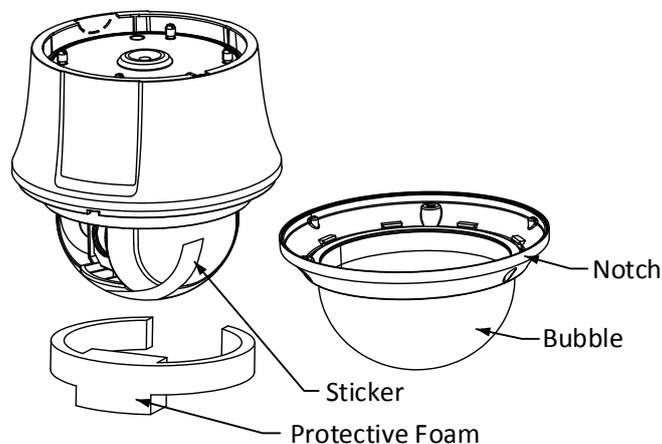

Figure 2-37 Disassemble the Speed Dome
3. Remove the protective lens cover, foam and sticker from the dome drive as shown in Figure 2-37.